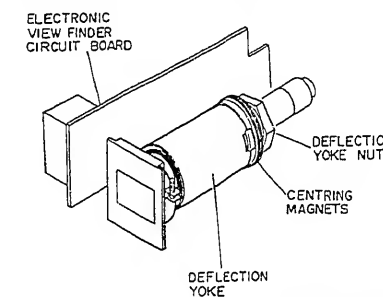

Fig. 4-11
1) Deflection Yoke Position Adjustment (Fig. 4-11)
2) EVF Centring Adjustment (Fig. 4-11)